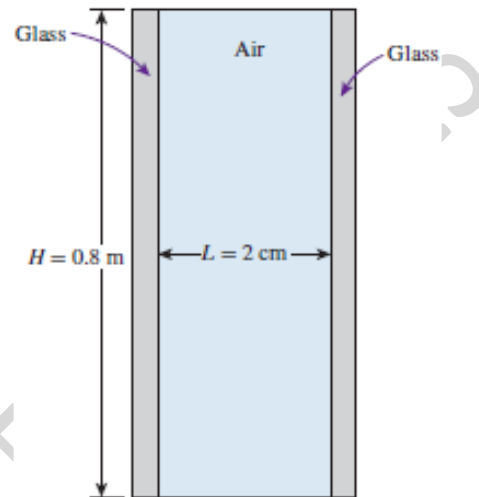

Figure 4
- b) The vertical 0.8 m high, 2 m wide double-pane window shown in Figure 4 consists of two sheets of glass separated by a 2 cm air gap at atmospheric pressure. If the glass surface temperatures across the air gap are measured to be  $12^{\circ}\text{C}$  and  $2^{\circ}\text{C}$ , determine the rate of heat transfer through the window. The properties of air at the average temperature of  $T_{\text{avg}}$  ( $7^{\circ}\text{C}$ ) and 1 atm pressure are  $k = 0.02416 \text{ W/m}\cdot\text{K}$ ,  $\text{Pr} = 0.7344$ , and  $\nu = 1.400 \times 10^{-5} \text{ m}^2/\text{s}$ . **10**